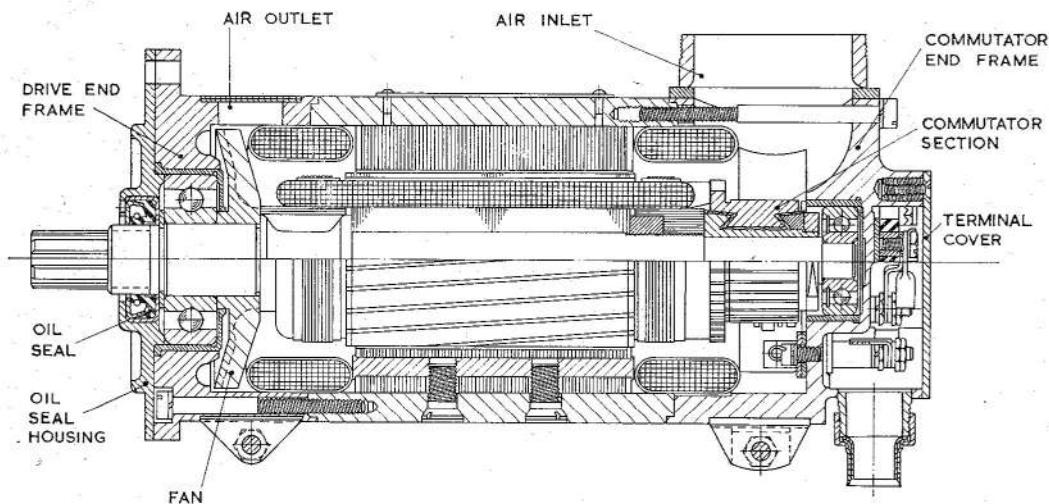

Fig. 2. Sectional view of generator with oil seal (flange mounted)
2. A typical manacle-ring mounted generator is illustrated in fig. 1, and a sectional view of a flange-mounted generator with oil seal in fig. 2. They are 2-pole, shunt wound machines of conventional design, screened to prevent radio interference.